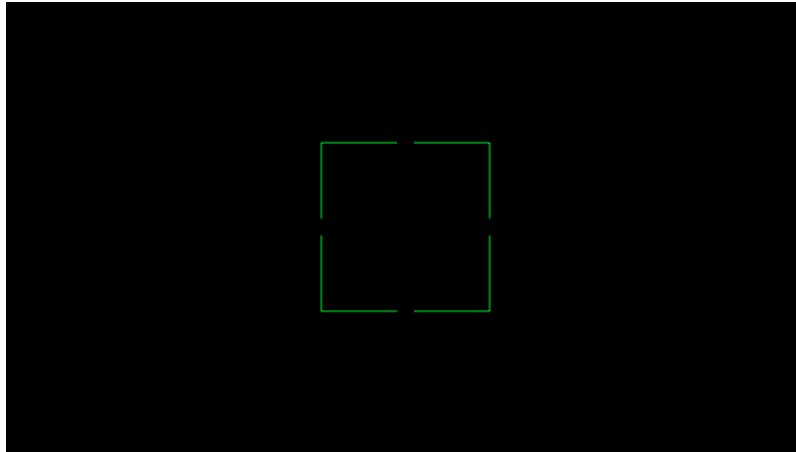

Figure 5-38 Example of changing color to green
- (3) Choose Color  : Select the color of the auxiliary line and change the auxiliary line to green as shown in Figure 5-38.